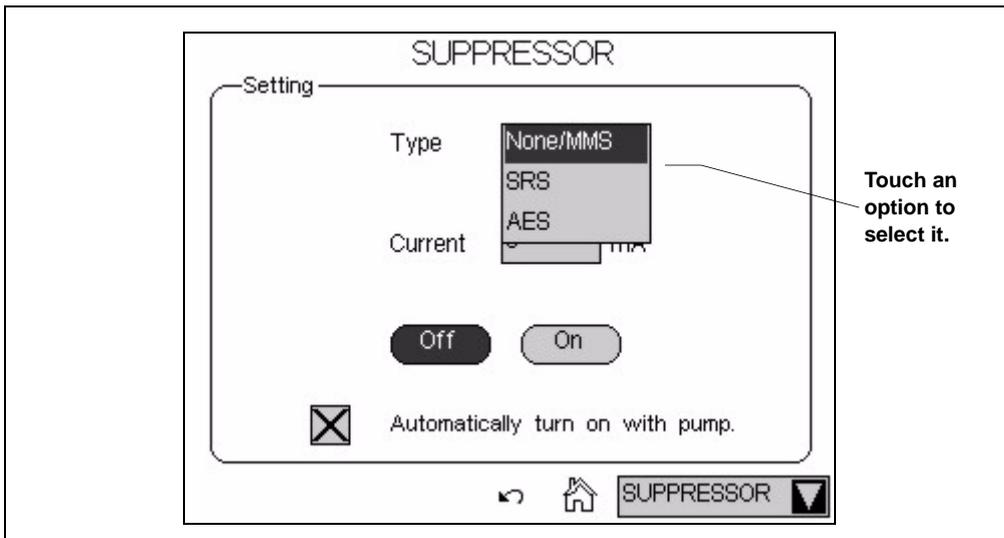

Figure 2-6. Suppressor Page: Selecting an Option
- Touching  opens a list of options (see Figure 2-6).